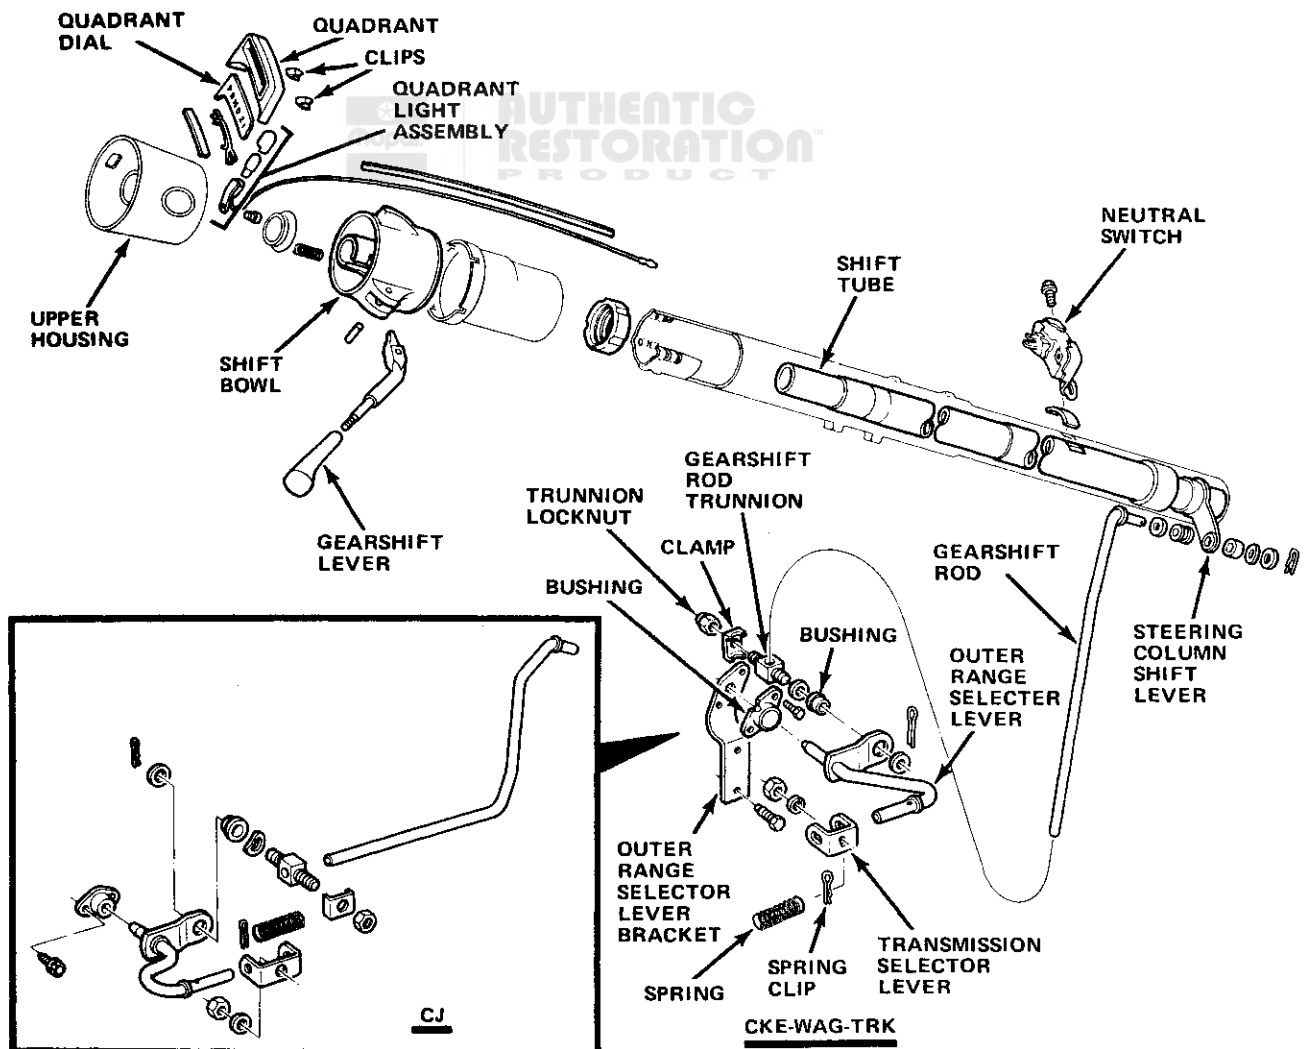

Fig. 2C-6 Manual Linkage and Neutral Switch
- (1) Place gearshift lever in Neutral.
- (2) Raise vehicle on hoist.
- (3) Loosen gearshift rod trunnion locknut just enough to permit movement of rod in trunnion (fig. 2C-6).
(4) Place transmission outer range selector lever fully into neutral detent position and tighten gearshift rod trunnion locknut to 9 foot-pounds (12 N•m) torque.
(5) Lower car and operate gearshift lever in all ranges. Vehicle should start in Park and Neutral only and gearshift lever should engage properly in all detent positions. Readjust linkage if operation is not satisfactory.